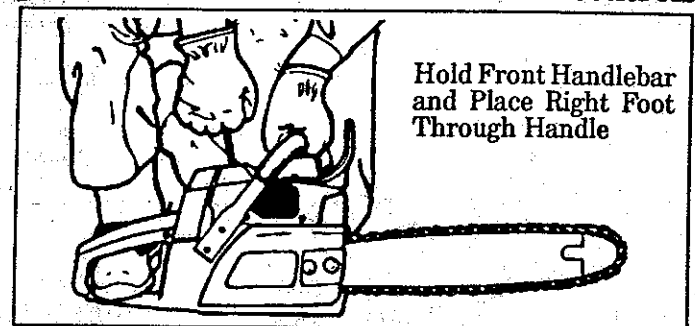

Figure 15
- a. Hold saw firmly on the ground as shown in Figure 15. Make sure the saw chain is free to turn without contacting any object.
- 3.) Pull the starter rope quickly with your right hand until the engine starts. Figure 15.
- 2.) Pull the starter rope quickly with your right hand until the engine starts. Figure 15 .
- 4.) Pull the starter rope quickly with your right hand until the engine starts. Figure 15 .